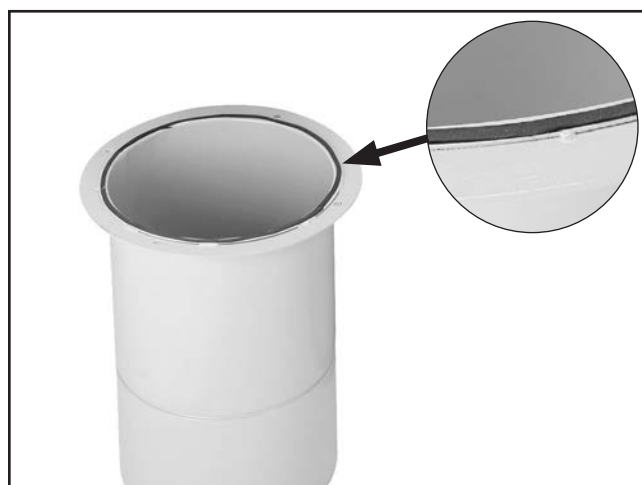

Figure 16. Foam tape attached to the intake cylinder.
9. Attach the 3 x 6mm foam tape on the intake cylinder, as shown in **Figure 16**.